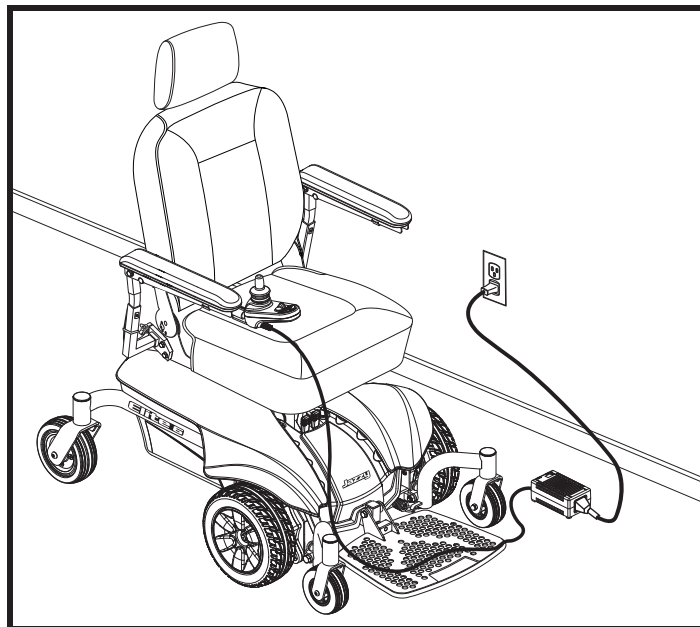

Figure 21. Battery Charging
1. Position the front of your power chair next to a standard electrical outlet. See figure 21.
3. Plug the off-board charger into the off-board charger/programming socket on the controller. See figure 21.